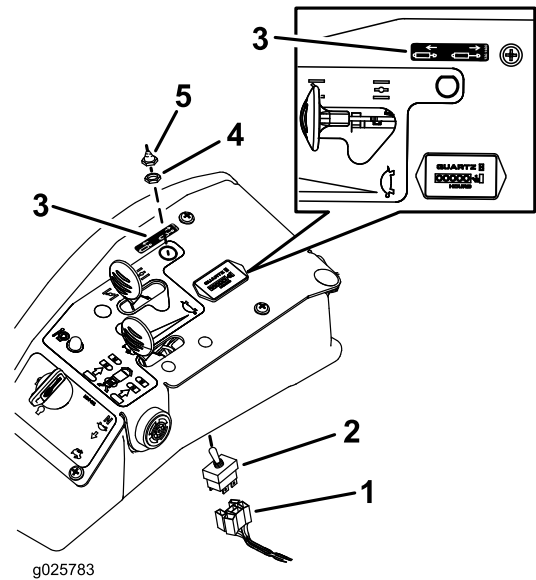

Figure 15
- D. Insert the toggle switch into the underside of the console opening (Figure 15).
clean, dry surface next to the toggle switch, and smooth to remove any air bubbles (Figure 15).